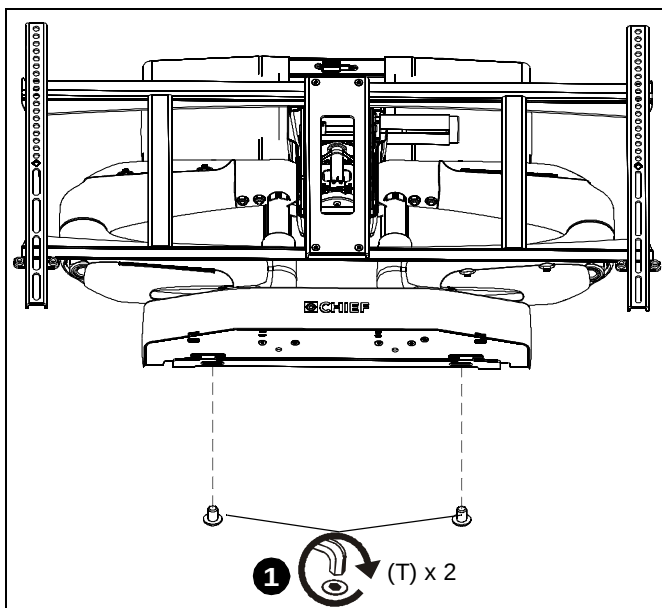

Figure 42
1. Make final attachment of PXR to wall mounting bracket using two 8-32 x 3/8" buttonhead cap screws (T). (See Figure 42)